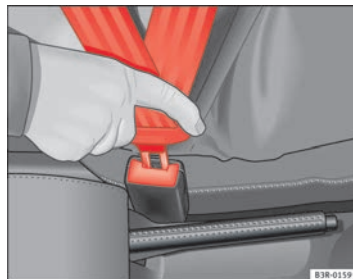

Fig. 11 Belt buckle and latch plate of seat belt
- Insert the latch plate into the buckle for the appropriate seat and push it down until it is securely locked with a click ⇒ page 22, fig. 11.